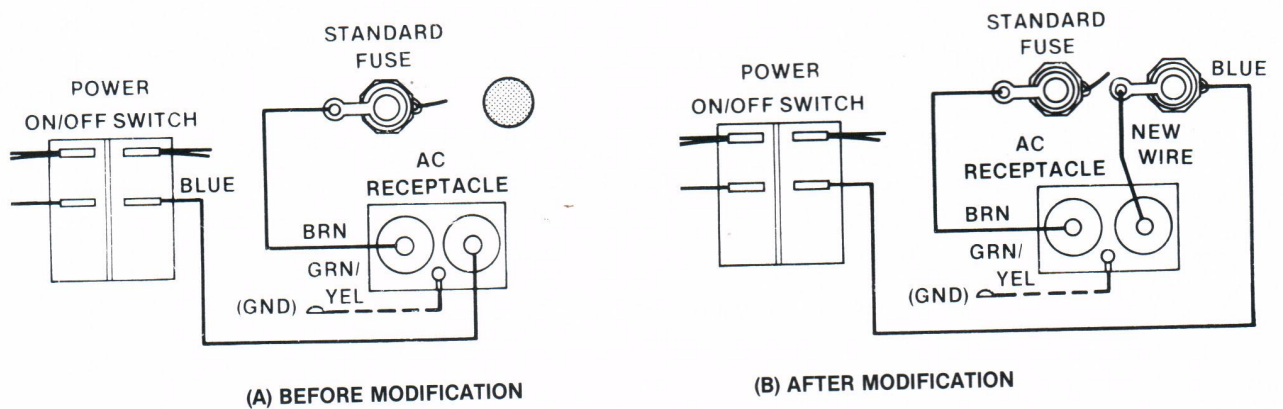

FIGURE 2-8 SECOND FUSE WIRING MODIFICATION
A soldering gun or iron is required for the next step. Figure 2-8 illustrates before (A) and after (B) the modification.